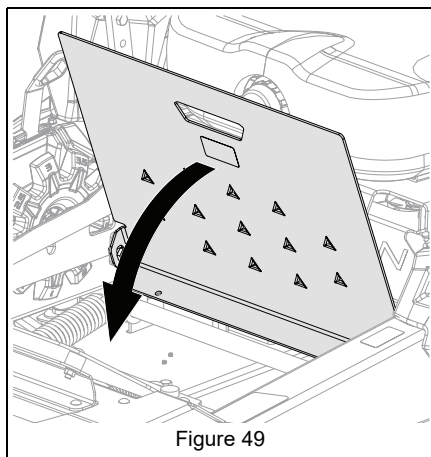

Figure 49
6. Lift access panel to close panel. See Figure 49.